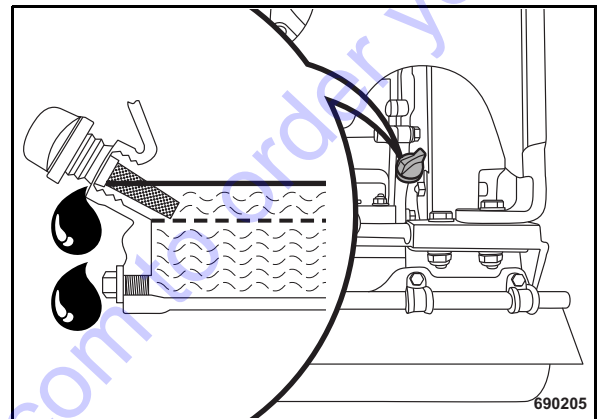

Fig. 41
- Pull out the dipstick (Fig. 41) and wipe it clean with a lint-free, clean cloth.